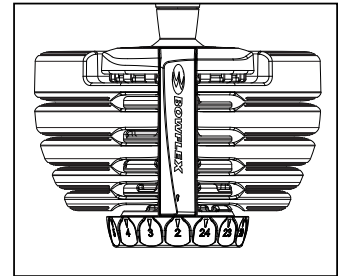

Figure 1
1. With the dumbbell handle set in the dumbbell base, turn both adjustment knobs to the lowest number (Figure 1). You will know you have fully and correctly selected the number when you feel the adjustment knob settle into a notch (known as a detent). You will also hear a slight, but audible, clicking noise that corresponds with the detent locations for each number.